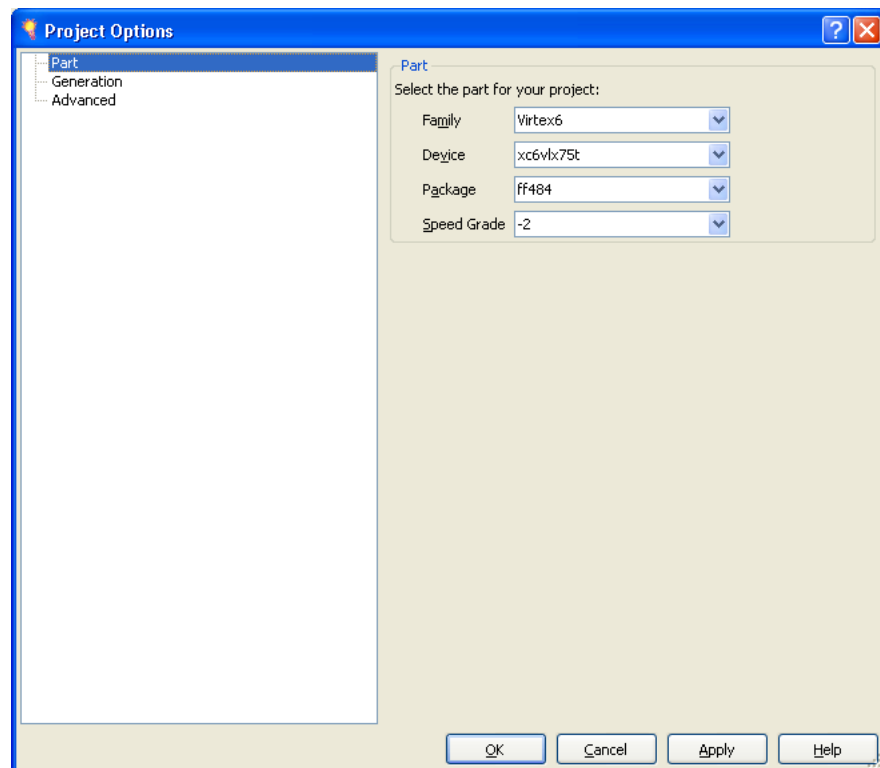

Figure 3-2: Target Architecture Setting
4. Select an appropriate package from the Package list. This example uses the XC6VLX75T device (see Figure 3-2).